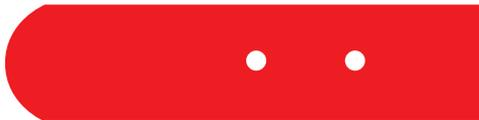

Figure 15 SH-3 needle guide for pilot holes
- The needles on the SH-3 dual-needle sensor must remain parallel to each other during insertion to make an accurate reading. Use the SH-3 needle guide (Figure 15) when making pilot holes to ensure that the needles have the correct spacing.